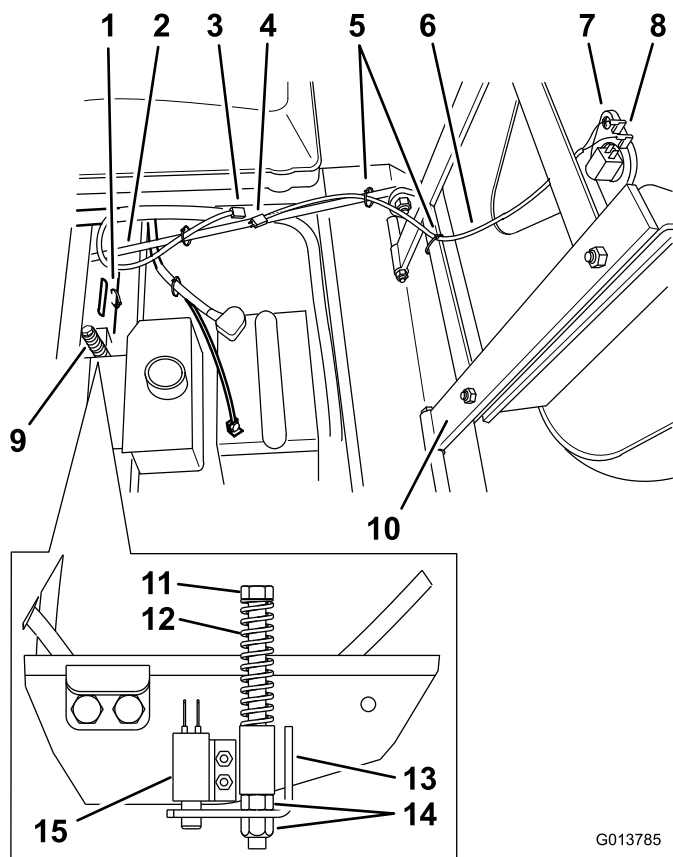

Figure 7
1. Locate and disconnect the wire harness connectors that are attached to old seat switch (Figure 7).
2. Remove the existing seat switch, bolt, spring, switch bracket, and nuts (Figure 7).
3. If your machine has a single connector from the old switch, remove the plastic tie holding the wire harness to the frame near the seat switch (Figure 7). Reconnect the other existing wires to machine frame.
4. Plug the single connector end of the new wire harness into the connector that was removed from the old seat switch (Figure 7).
7. Position the wire harness along the seat hold-up rod, over to the seat mounting frame and up to the new switch, located under seat (Figure 7).
8. Attach the two connectors of the new wire harness into the new seat switch (Figure 7).
9. Move seat to the furthest rear position. Use the three plastic ties to attach the wire harness to seat hold up rod and seat mounting frame (Figure 7).